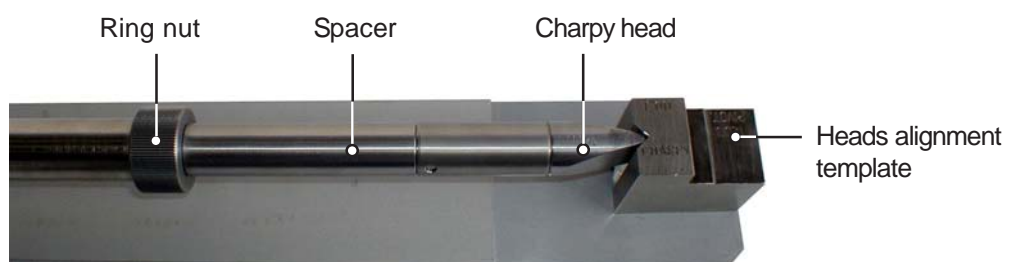

Fig. 8 - Striker with the Charpy head aligned
- 1) Insert and screw the spacer to the striker body (Fig. 8) by hand. Skip this step if it is already installed.